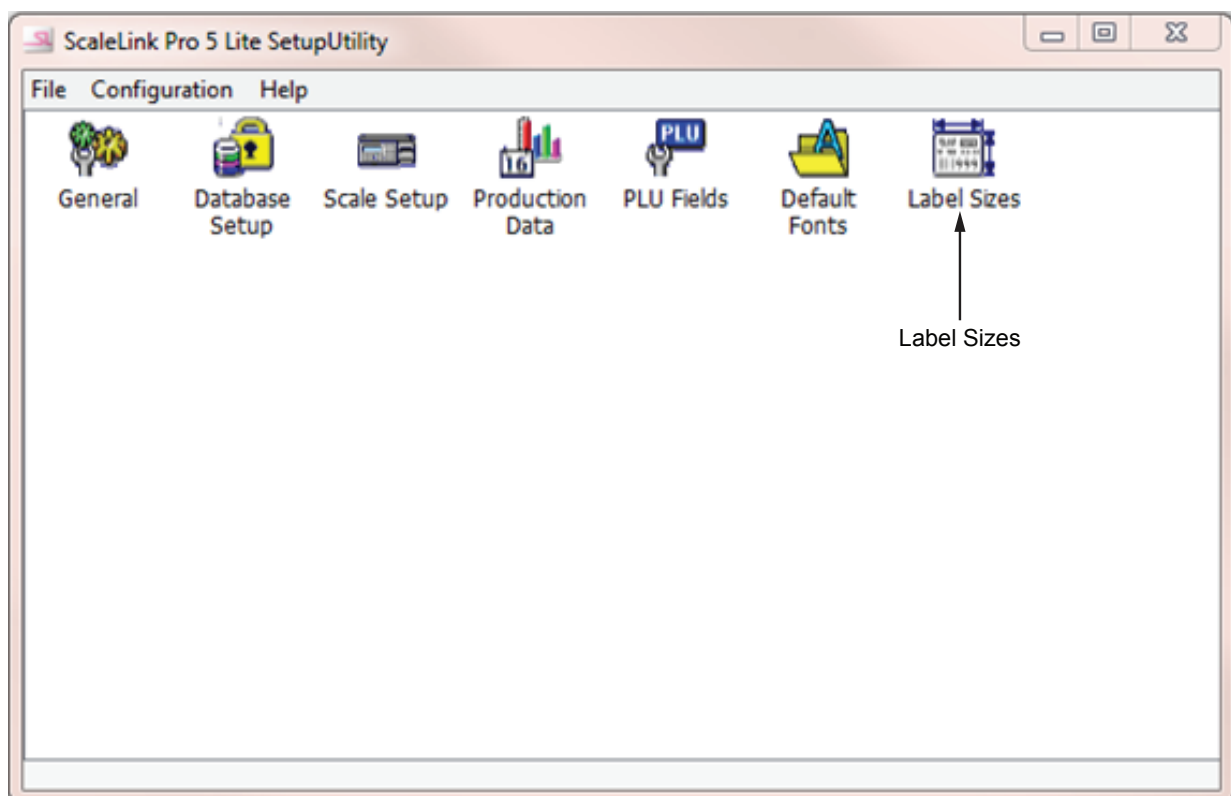

Figure 9-2
2. Select Label Sizes from the ScaleLink Pro 5 Lite Setup Utility window. See Figure 9-2.